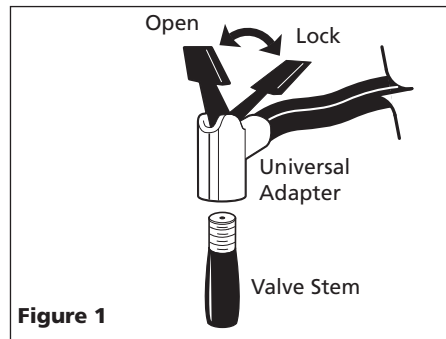

Figure 1
2. Turn the adapter onto the valve stem in a clockwise direction until a good connection is achieved (See Fig. 1).